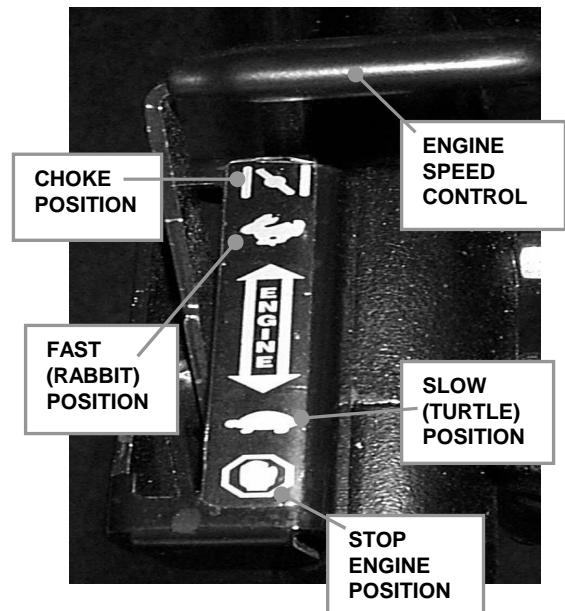

FIGURE 2.3
2. Move engine speed control to the "choke" position. See Figure 2.3. Refer to Familiarization Page.
5. After engine starts, move engine speed control away from the choke position to the "Fast" (Rabbit) position. See Figure 2.3.